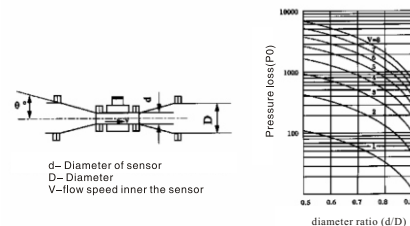

Figure 6. Loss from installing the divergent tapered tube or pipe
- (1) The direction of the flow sensor is the same as the media flow.
- (2) Must ensure that the sensor tube is always full of measured media
- (3) There should be 5 times straight distance of tube diameter upstream The position for installing must be 3 times of conduit diameter in the front and 5 times of conduit diameter in the back.
- (4) When the pipe diameter is inconsistent with the sensor, install the divergent tapered tube or pipe at the both ends of flow meter, and then connect to pipe. The cone angle of diverging, converging tube should be greater than $2\theta \sim 15^\circ$. When using 15° cone angle of diverging, converging tube, you can see Head loss resulting from the curve in Figure 6 investigation.
- (5) Horizontal installation, the electrode should be installed in a horizontal position. Thus, once the media containing bubbles or precipitate substance, air bubbles will not adsorbed on the electrode, cause the disconnect of the signal converter. Sediment will not cover the electrode which may cause Zero drift.
- (6) For the liquid-solid two-phase medium, vertically installation is more favorable. First it can prevent the separation of measured media, second sensors can wear more evenly lining. Vertical installation, medium flow direction should be bottom-up, this will ensure that the sensor tube is always full of media measurement.